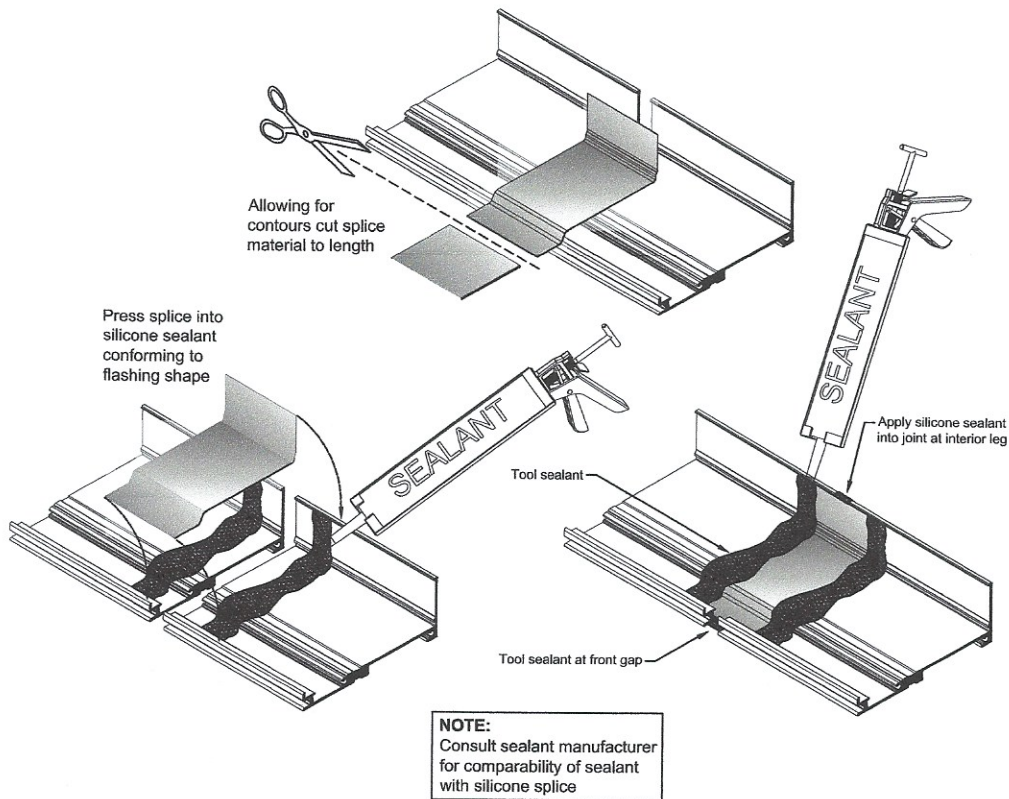

Fig.44.1
- Clean surfaces where splice will be applied. Apply sealant as shown in **Fig. 44.1**.